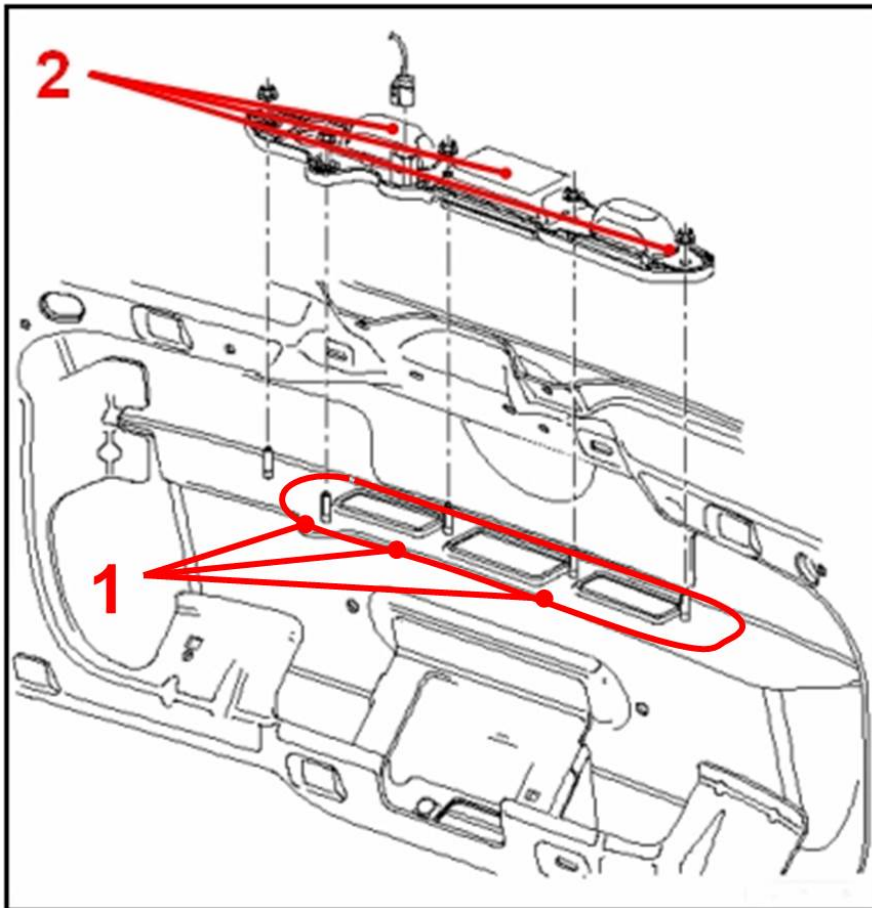

Figure 6: Screw fastened license plate light
- Install the new license plate light / release handle assembly (Figure 6, number 2). See Repair Group 55 in Elsa.